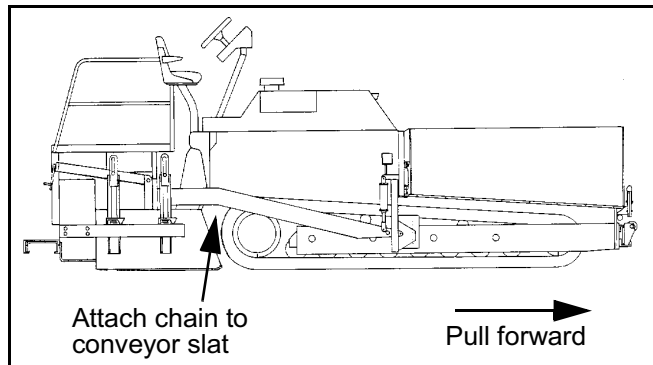

Figure 5 - 4 Attach chain to conveyor slat
- 2) Run a chain under the paver from the front to the rear. Attach chain to the slat at the bottom rear. (Figure 5 - 4)